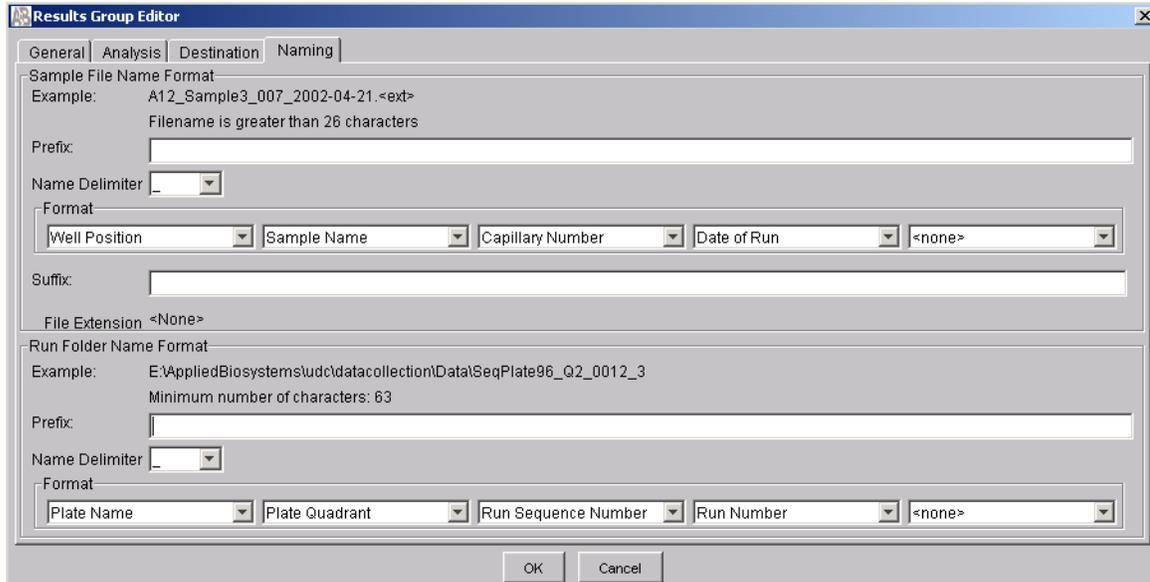

Figure 3-2 Results Group settings for 3730 instruments running 48-capillary arrays or 3130x/ instruments running 16-capillary arrays
3.	<p>Complete the information in the tab as shown in Figure 3-2 and Table 3-3.</p> <p>Note: When you create a new results group, the Data Collection software displays a single drop-down box under each Format section. Each time you make a selection (as specified in the table below), the software adds a drop-down box.</p>
Figure 3-2 shows the Results Group Editor for a sample Results Group used with 3730 instruments running a 48-capillary array or a 3130xl instrument running a 16-capillary array. Note that for instruments running 96-capillary arrays, the Run Sequence Number is unnecessary.